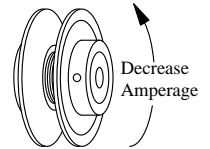

Fig. 9
- **Adjust pulley if necessary.** If amperage draw is less than motor rating, turn off electrical power and remove inspection panels. Unplug motor inside cooler, this will protect you from someone turning on unit while you are working inside. This should be done for your safety. Adjust pulley to a larger diameter and readjust belt tension, plug motor in, install inspection panels, and retest amperage draw. Repeat this process until correct amperage draw is attained. Increasing motor pulley diameter increases amperage draw. Decreasing motor pulley diameter decreases amperage draw (see Fig. 9).